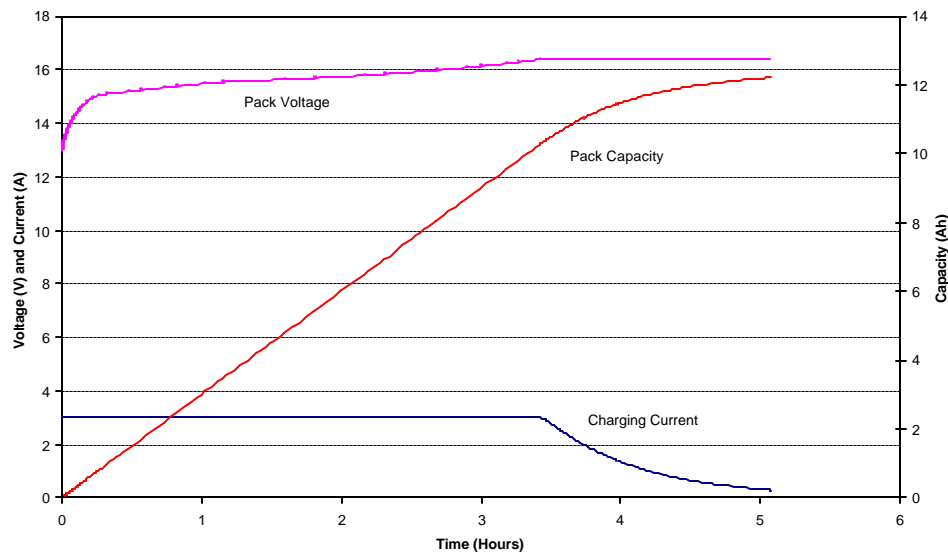

Figure 3
- 8.5. Battery sections can be charged in parallel, however charge times will increase. See figure 3 for a typical graph.